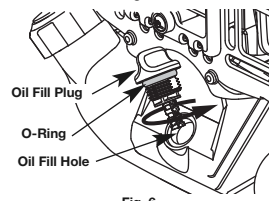

Fig. 6
- Remove the oil plug / dipstick from the crankcase (Fig. 6).